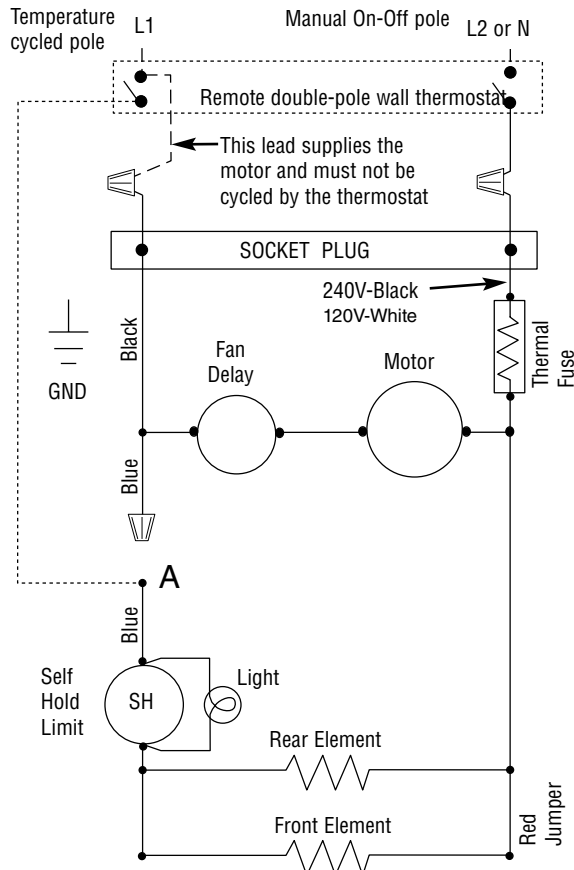

Figure 3 - Wiring For Remote Thermostat (For lower wattage rating remove red jumper)
6. **FOR REMOTE 2 POLE WALL THERMOSTAT, WIRE HEATER AS SHOWN IN FIGURE 3.** Run field wiring from circuit breaker box to wall thermostat. Connect blue lead A with heater to field supply lead from load side of thermostat. Connect supply field wiring from thermostat to two black pigtail leads for 240/208V model or to black and white pigtail leads for 120V model with wirenuts (provided). Connect field ground lead to ground pigtail with wirenut (provided).
NOTE: 1100 watt models only may be wired with line break remote thermostat that cycles entire heater (elements and motor). 1500 watt models MUST be wired as shown in Figure 3.